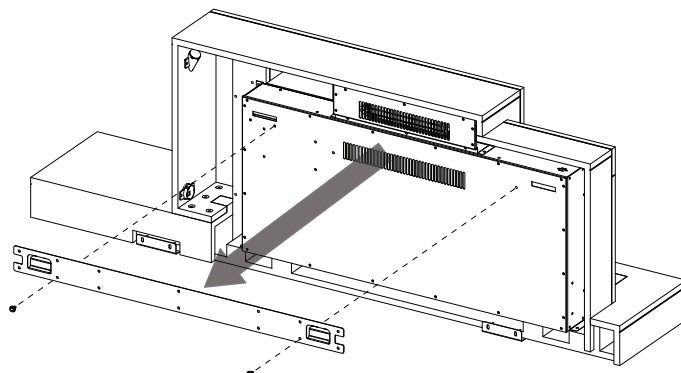

Fig. 1
2. Place the appliance on a soft, non-abrasive, and flat surface. Remove the rear wall bracket from the back of the appliance by removing the 2 screws (**Fig. 1**).